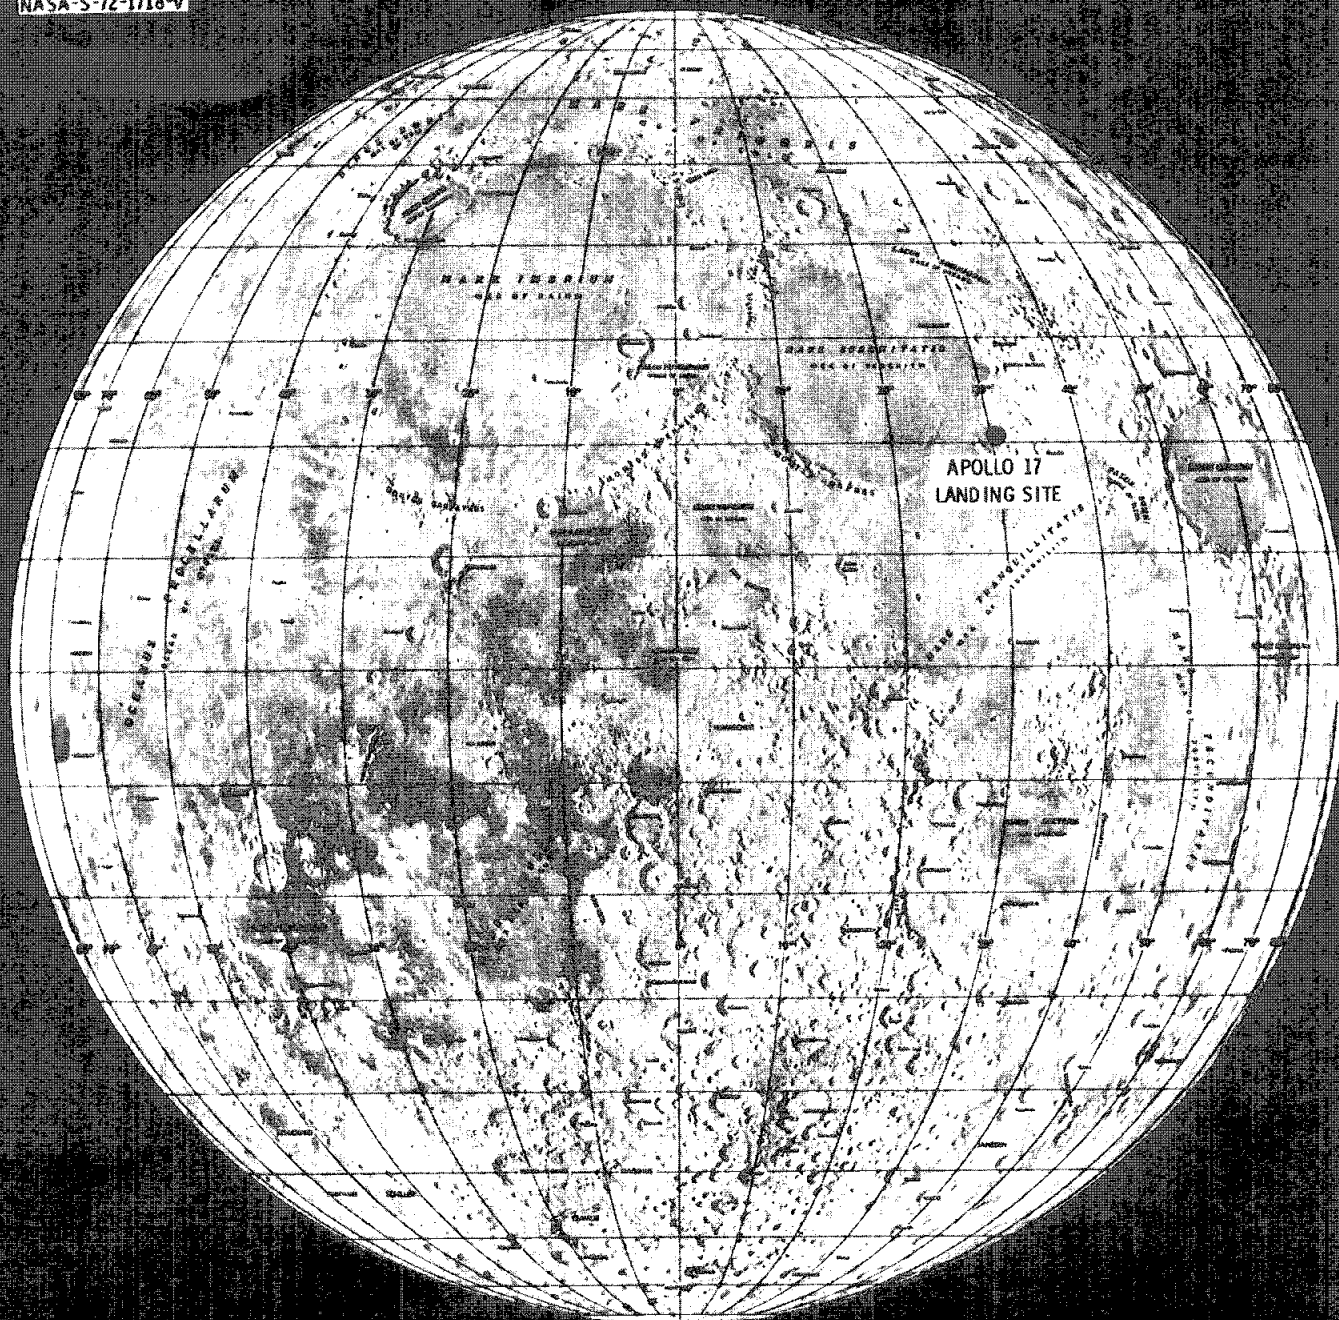
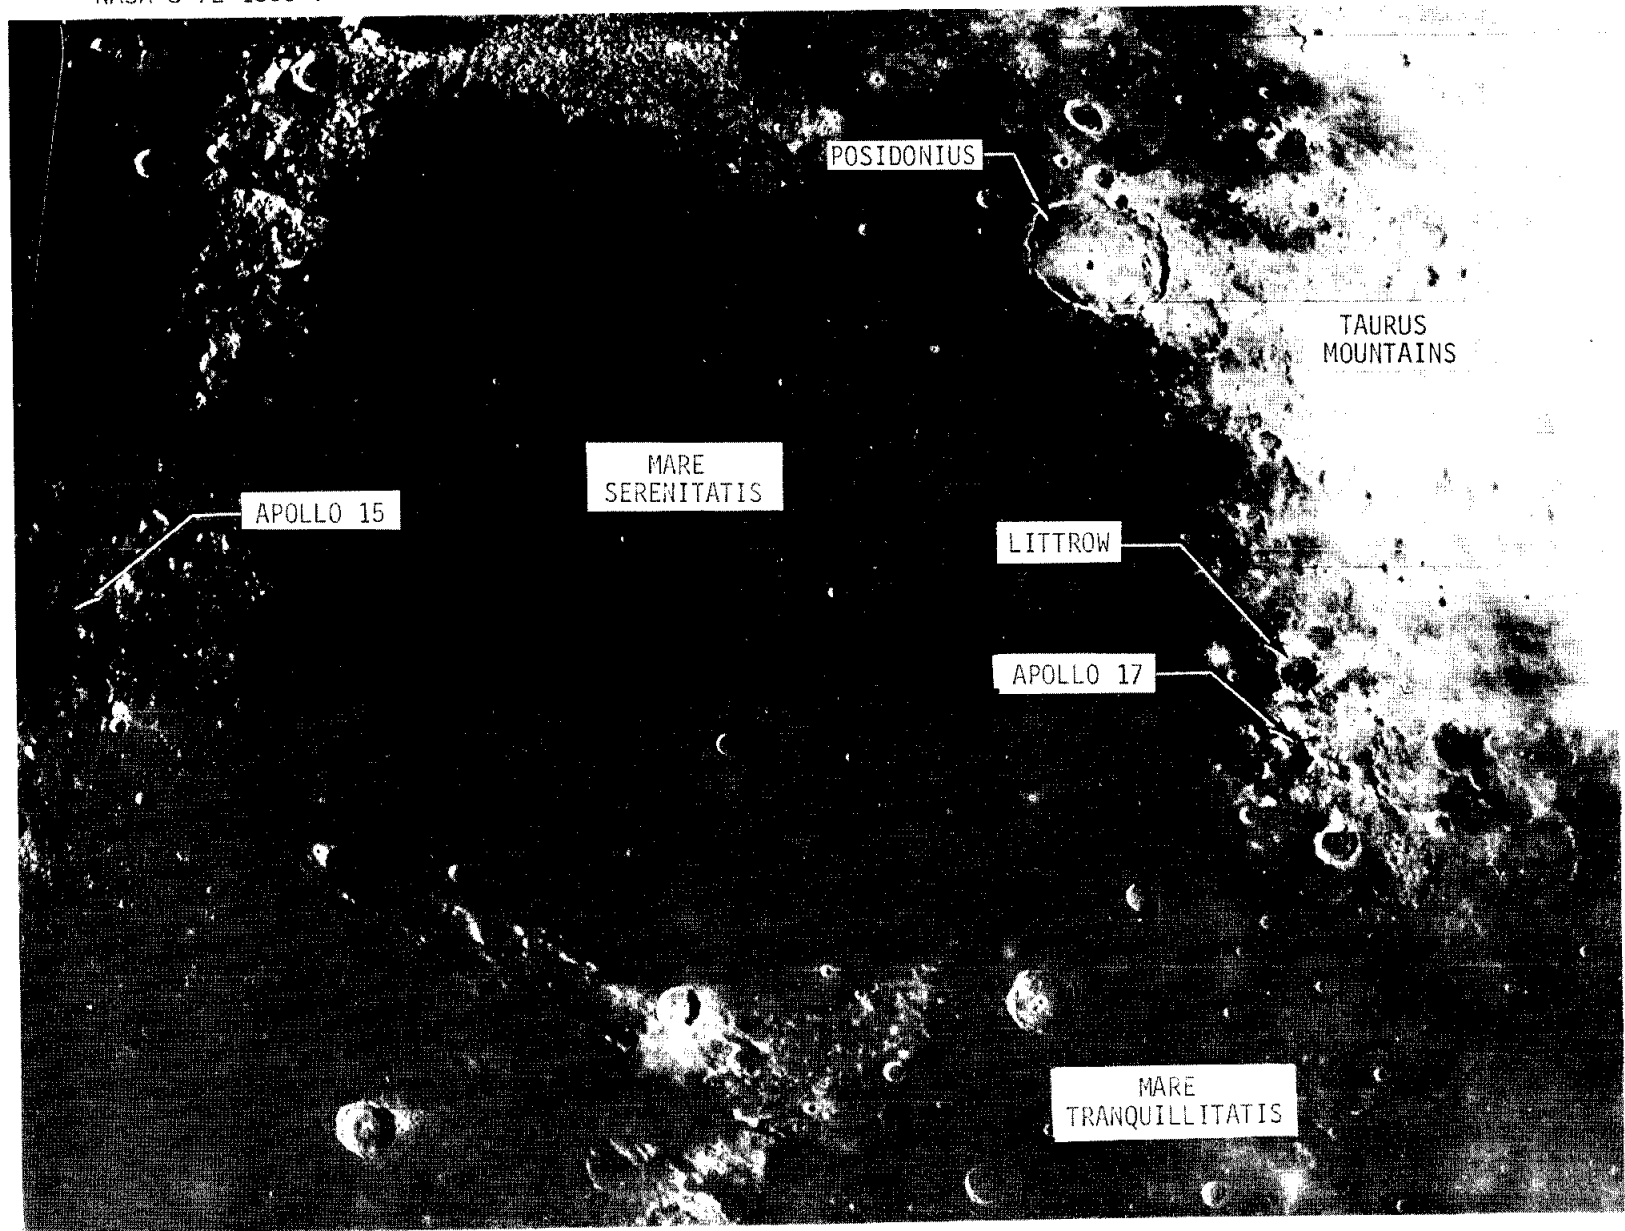
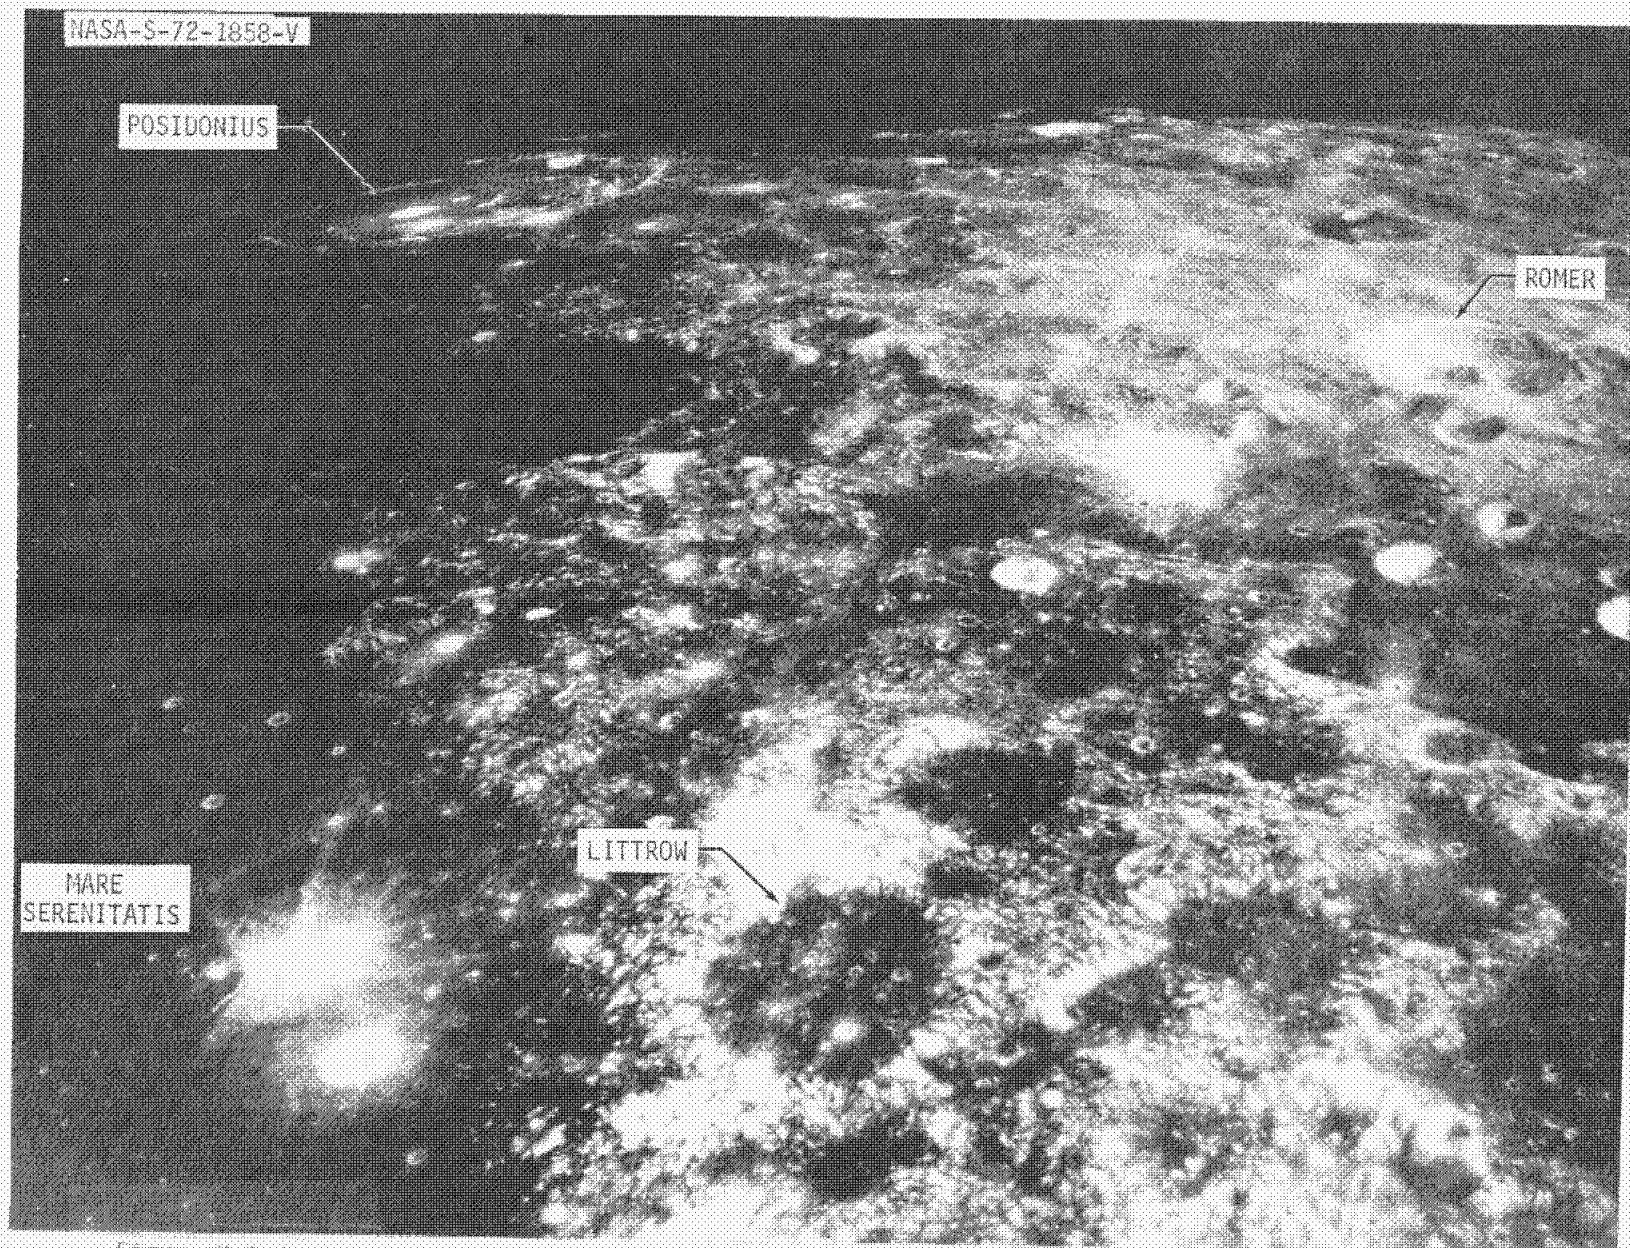
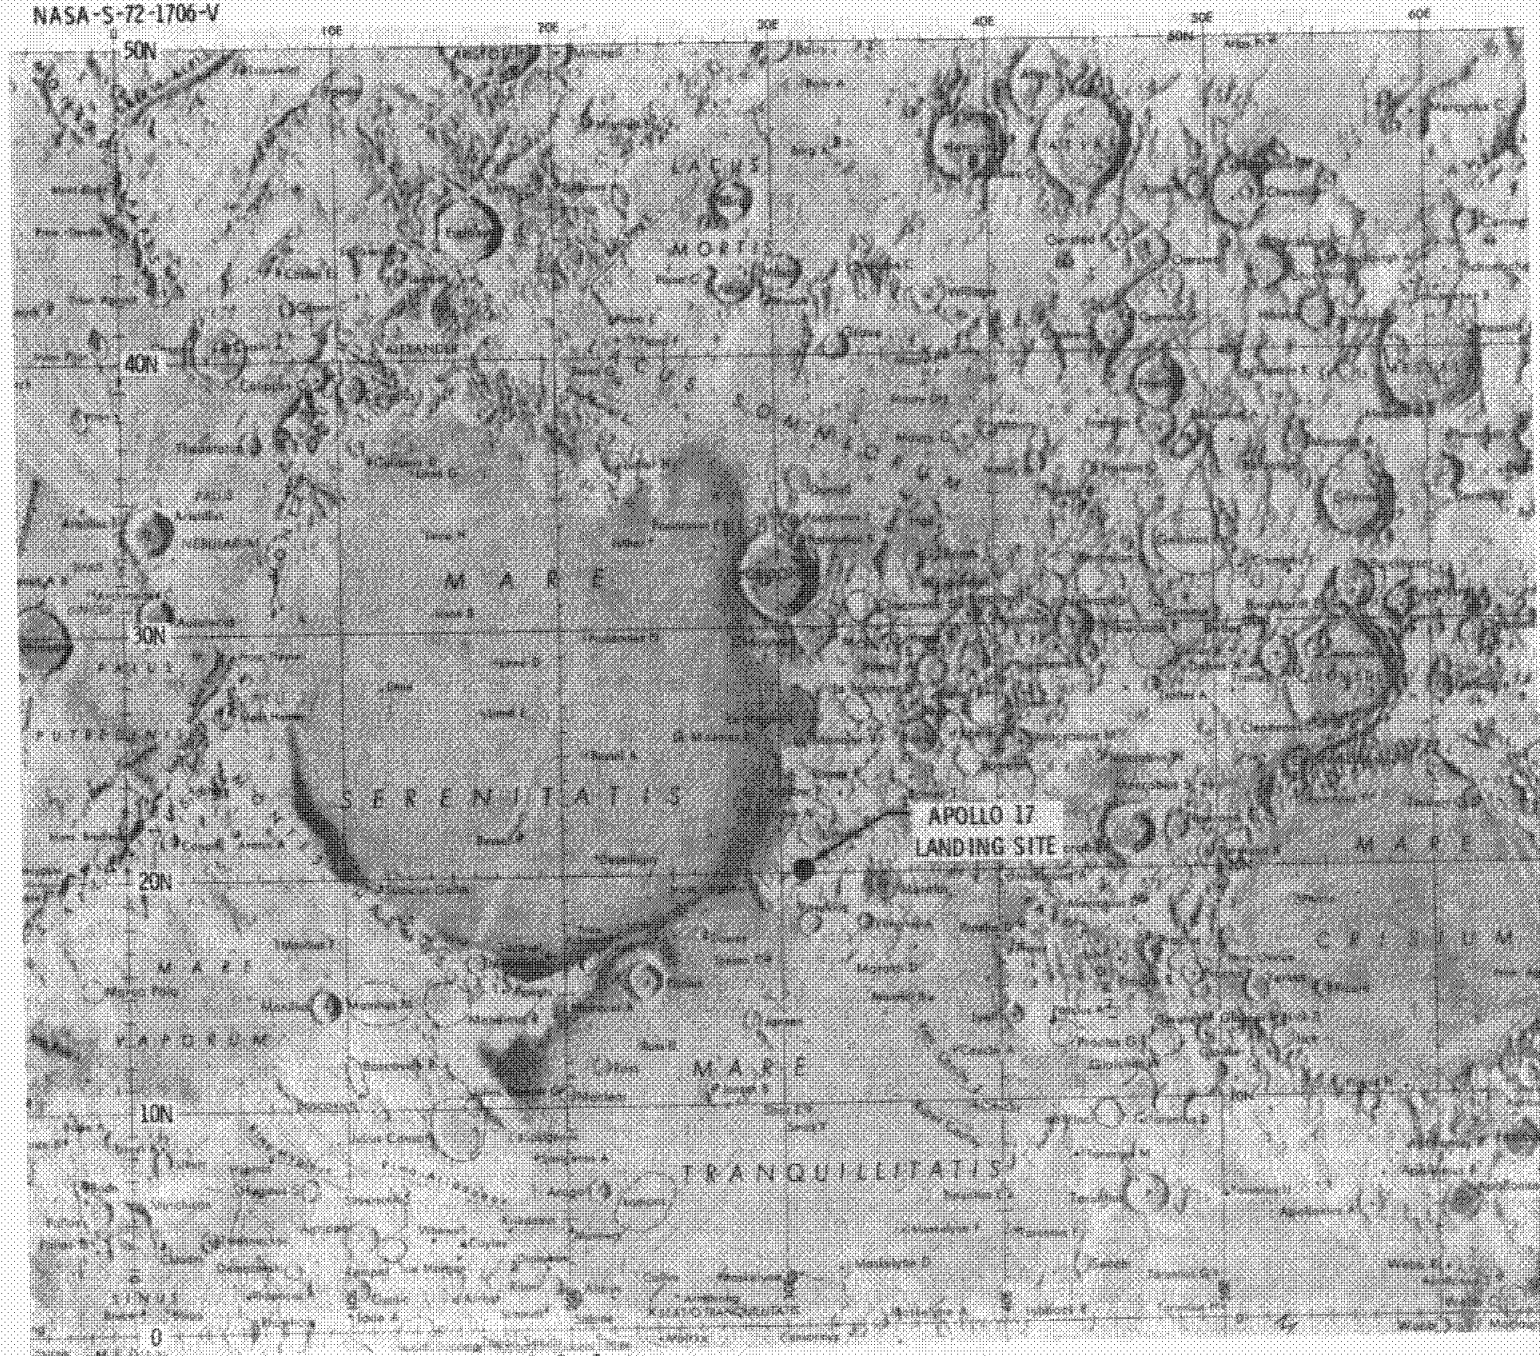

Figure 2.1-1 Whole moon view showing Apollo 17 landing site: 20 09'50"N,
Figure 2.1-2 Apollo 17 mission photograph of the Moon's surface.
Figure 2.1-3 Oblique view of Apollo 17 landing region as seen by Apollo 15 mapping camera.
Figure 2.1-4 Map view of Apollo 17 landing region.
2.1.1 Geographic Setting - The Taurus-Littrow region is located in the northeast quadrant of the moon (Figure 2.1-1), in the mountainous region of the southeastern rim of the Serenitatis basin, approximately 750 km east of the Apollo 15 site (Figure 2.1-2). The site name is derived from the Taurus Mountains, which lie to the north and northeast of the site forming a mountainous plateau at the eastern edge of Serenitatis between Posidonius and Macrobius, and from Littrow, an old 30 km highland crater which lies approximately 35 km north of the landing site. This area is well illustrated in Figure 2.1-3, an Apollo 15 metric camera oblique, a view of the Taurus-Littrow area from south of the landing site. Posidonius is the large crater in the upper left near the horizon, Mare Serenitatis is the dark region along the left margin, and the crater Littrow lies in the left-center, just north of the landing site. Macrobius is off the picture to the west and the relatively fresh large crater in the upper right is Romer. Figure 2.1-4 shows the map location of this region.